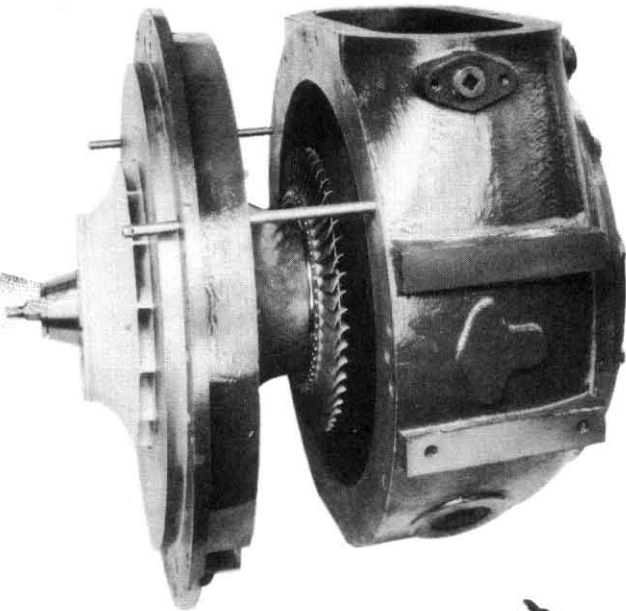
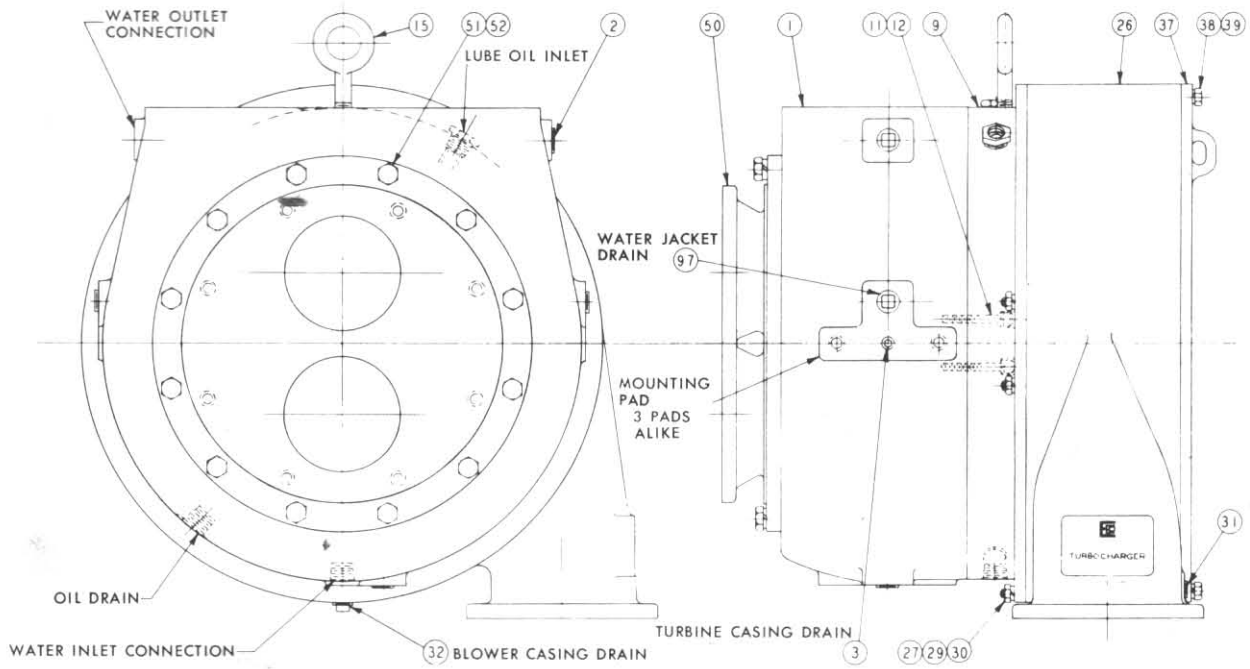

Fig. 4—Intermediate and Turbine Casing — Method of Assembly and Disassembly.
Fig. 7—Outline Drawing L-10 Turbocharger
3. Remove intermediate casing to turbine casing cap screws (11) install intermediate casing guide pins (103) and special jacking screws (102) (see Figs. 4 and 12) and break the joint. Remove special jacking screws.
4. Slide the intermediate casing and rotor assembly clear of the nozzle ring to avoid damaging the turbine blades (see Fig. 4).
5. The intermediate casing may now be supported with the eye bolt (15) for disassembly of the rotor.
Slip this assembly on the shaft. After the impeller has been pushed on by hand as far as possible, insert key (84), place nose-piece (85) in position and draw assembly tight with elastic stop nut (86). A torque of 35 foot-pounds should be used for the L-10, 50 foot-pounds on the L-20 and L-40 and 90 foot-pounds for the L-60. Hold centering stud with wrench on flats provided while tightening elastic stop nut. The rotor assembly should turn freely and the end play should be checked with a dial indicator. End play should be within the limits specified in Section 6. After checking the end play, the bearings should be oiled through the lube oil inlet at the top of the intermediate casing (9) Figs. 7 and 8. Turn the rotor by hand to be sure that the oil gets to all surfaces of the shaft and bearings.
3. With the aid of eyebolt and overhead lift, slide the intermediate casing into place (See Fig. 4), being careful not to damage the turbine blades. Install cap screws (11) Fig. 7 and 8 and tighten evenly.